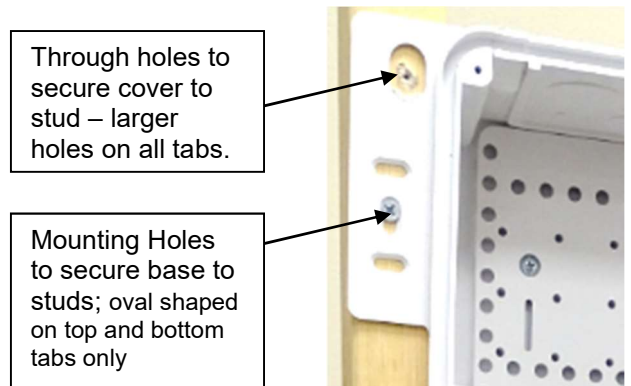

Figure 3
6. Attach FMC base to studs on both sides through oval shaped mounting holes in the four mounting tabs using four #8 x 3/4" lg. flat head screws (included). (Figure 3)